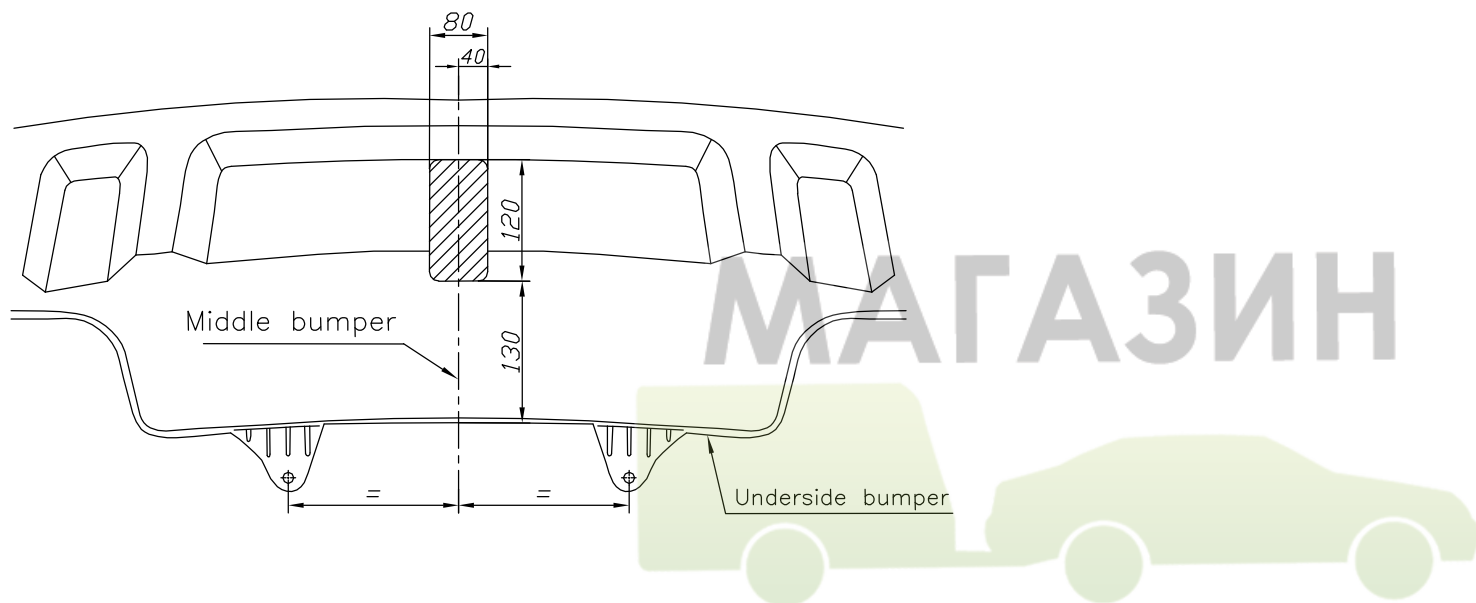

Figure 2. Bumper's cut
7. Reassemble rear bumper after cut out it's fragment according to figure 2.
8. Fix body of the automat (pos. 5) and the socket plate (pos. 3) using bolts M12x25mm (pos. 6) from accessories. Place tow-ball (pos. 2) according to supplied instruction.